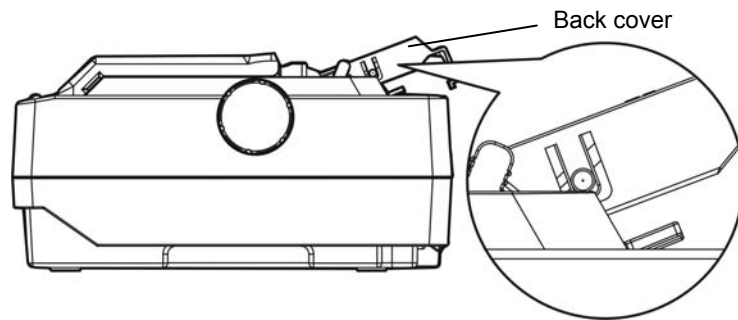

Figure 3-3 Adjust the position of the back cover
3. Raise the printer back cover to the proper position (shown as figure 3-3), then turn on the printer.